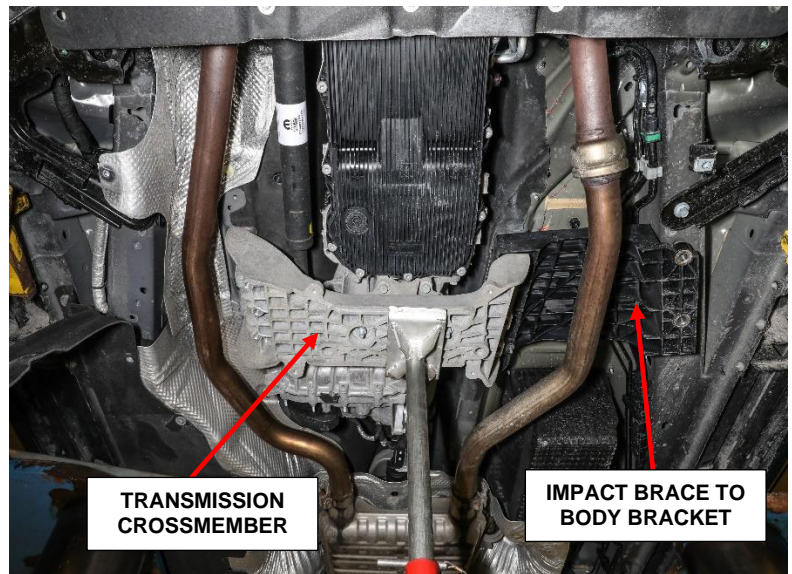

Figure 4 – Transmission Support
9. Support the transmission and remove the left side and right transmission crossmember bolts and the left crossmember impact bracket bolts (Figure 4).
10. Lower transmission and remove the impact brace to body bracket (Figure 4).